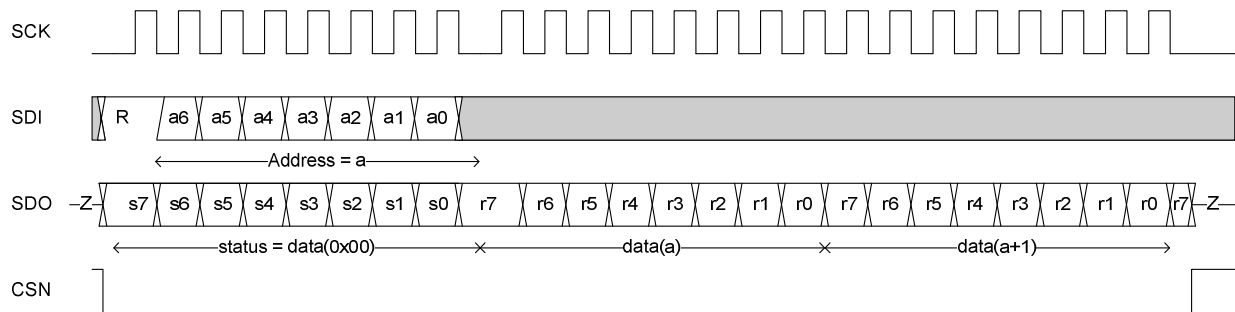

Figure 5 Multi-read SPI transaction
- Read one or more consecutive register(s) and the status byte (register 0x00) (see Figure 5 below). This action needs at least 2 bytes (1 for address and read order, and 1 byte for reading the desired address).